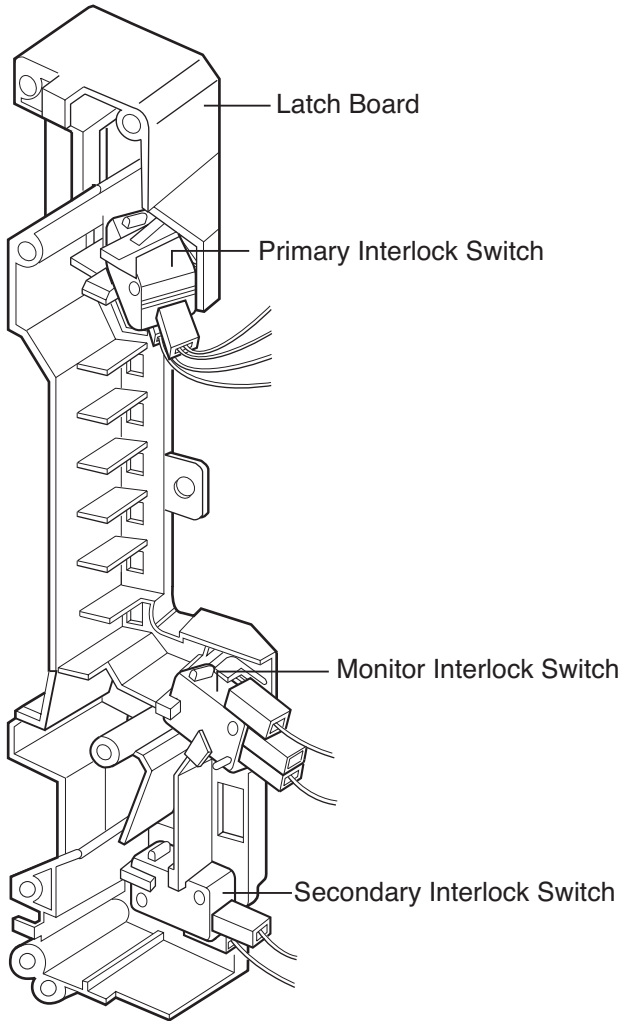

Figure 5
C. REMOVING THE DOOR INTERLOCK SWITCHES (Figures 5, 6)
- (1) Disconnect the wire leads from the interlock switches.
- (2) Remove two screws securing the Latch Board.
- (3) Make necessary replacements and check microwave energy leakage according to "ADJUSTMENT PROCEDURES" on page 7-11.